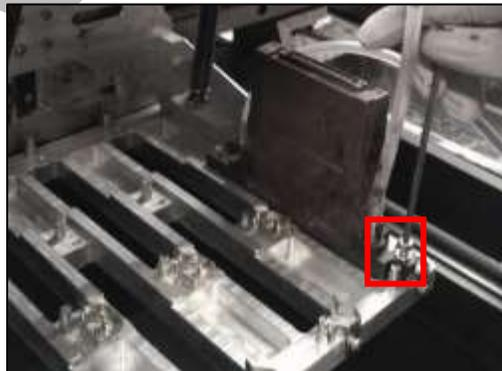

Fig 36: Fixing the Head Screw
Step 7: Connect refill connections to the head board (Refer to Fig 36).
Step 8: Remove the cap of the **Air Releasing Pipe** (Refer to Fig 36).